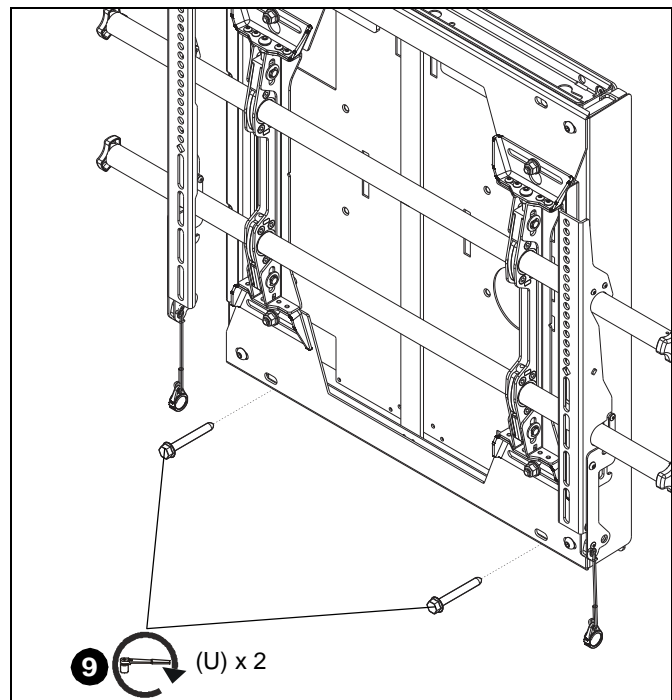

Figure 4
9. Install two 5/16 x 2 1/2" hex head cap screws (U) through lower mounting holes on mount and into drilled holes on wall. (See Figure 4)